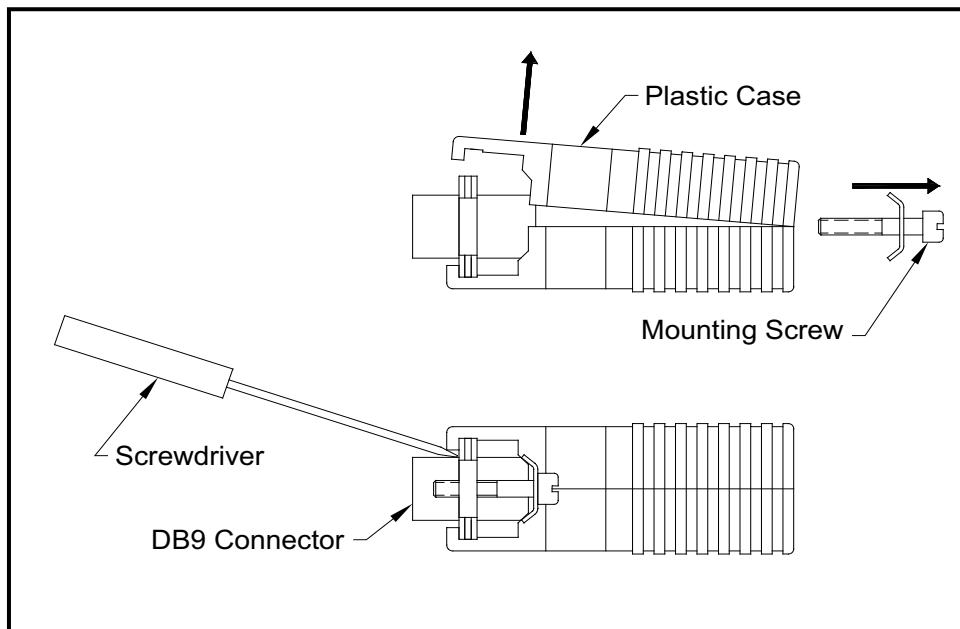

Figure 10: Opening the Converter Case
5. Use a small screwdriver to pry open the **plastic case** of the serial interface converter, as shown in Figure 10 on page 65.